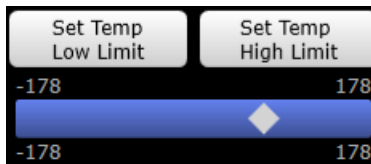

Figure 99 - Axis Bar and Limit Buttons
1. From the **Axis List** in the on the **Axis Control** panel, select an axis for which you want to set a limit. For most axes, one axis bar and two limit buttons (**Low Limit** and **High Limit**) appear (Figure 99).